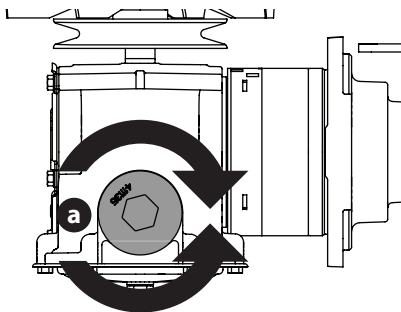

Figure 43
2. Place a suitable container under the drain plug (a) on the transmission. Remove the drain plug (a) and allow the transmission oil to drain (Figure 43).